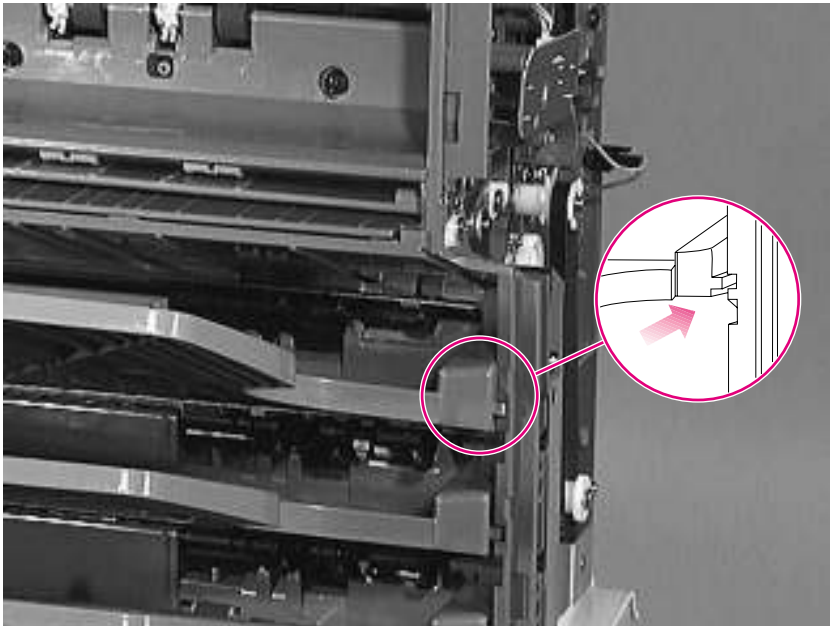

Figure 6-133 Face-down Bins (3 of 3)
- 2 Make sure that the tabs are in place as shown in figure 6-133 callout 1.